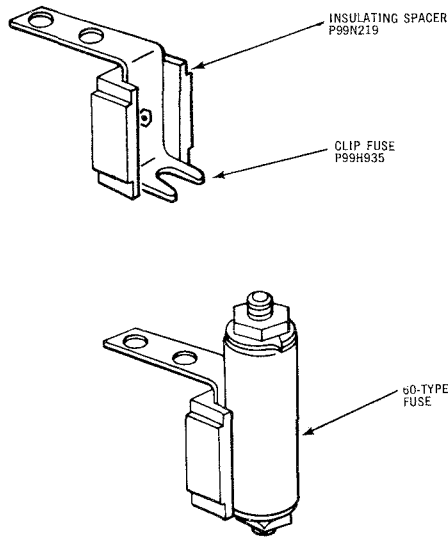

Fig. 10 — 60 Type Fuse, Fuse Clip and Spacer
3.07 *Sneak Current Fuses (60-type)* (Fig.10) are required when specified on the service order or by other local instructions.